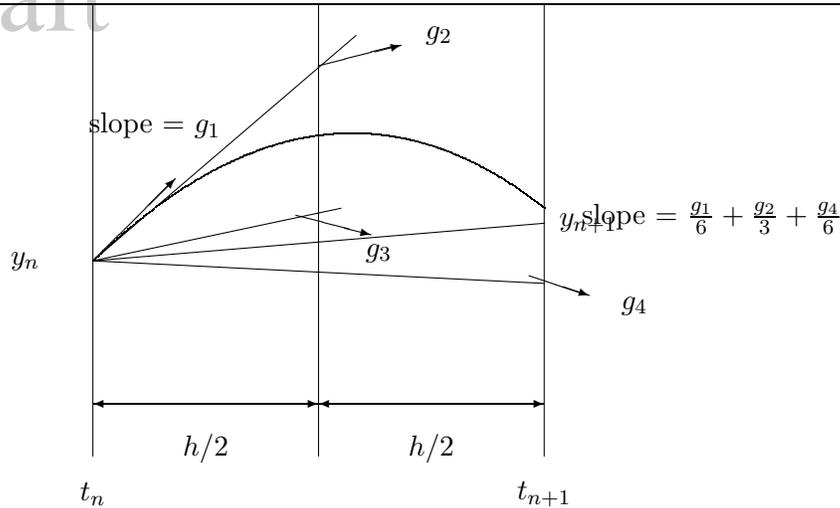

Figure 3.5: 4th Order Runge-Kutta Method
**Fourth-Order Runge-Kutta** method is given by, Fig. 3.5.